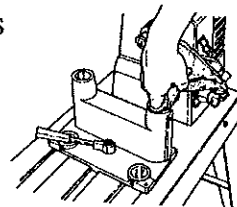

Fig.A-18
21. Wax the inside of each of the four tubeholes in the carriage. See Fig.A-18.